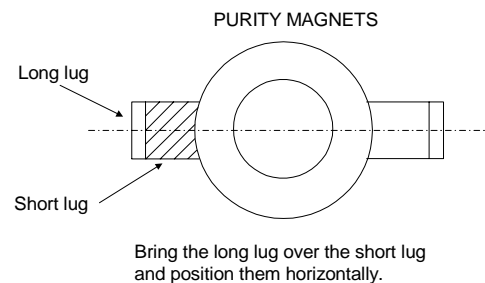

Fig.2
6. Bring the long lug of the purity magnets on the short lug and position them horizontally. (Fig.2)